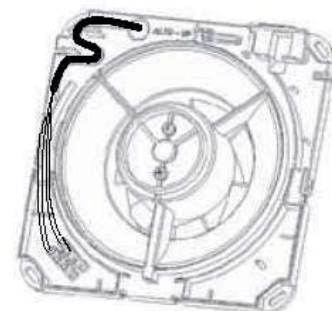

Figure 11
4. Place the power cable in the appropriate place (Figure 11).